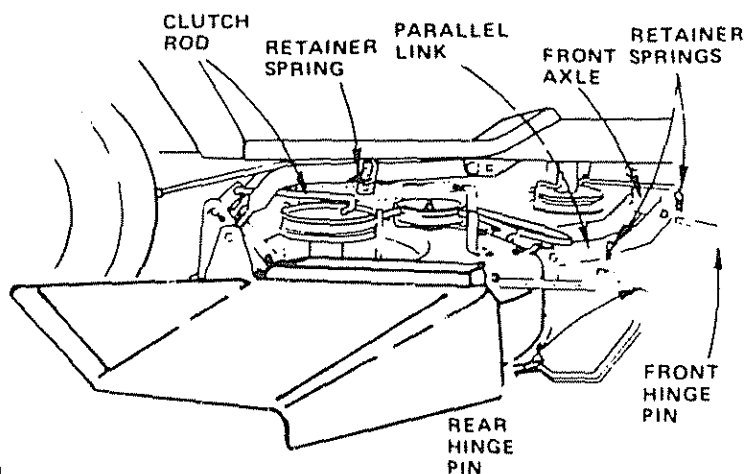

FIGURE 29
- Install front hinge pin through axle and parallel link (Fig. 29). Secure with retainer spring.
- Install rear hinge pin through mower lift brackets and parallel link (Fig. 29). Secure with retainer spring.
- Install clutch rod in clutch lever (Fig. 29)